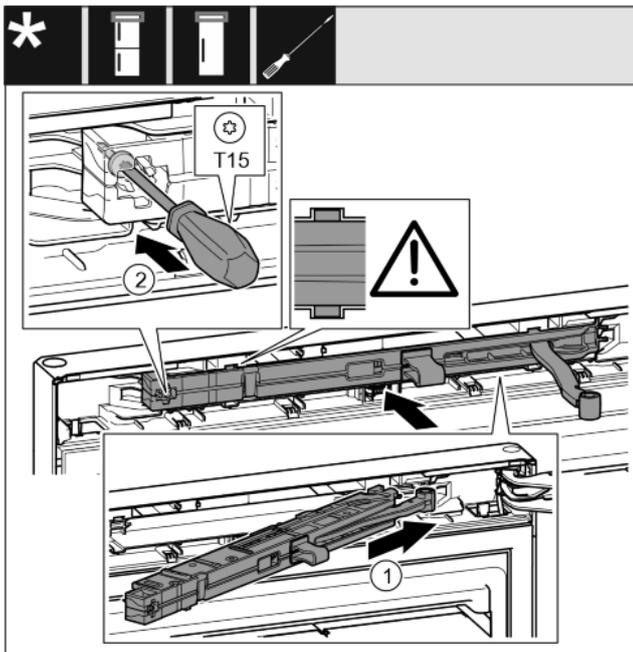

Fig. 38
- ▶ Slide the soft stop unit on the bearing bracket side at an angle into the slot as far as it will go. Fig. 38 (1)
- ▶ Tighten the screw with a T15 screwdriver. Fig. 38 (2)